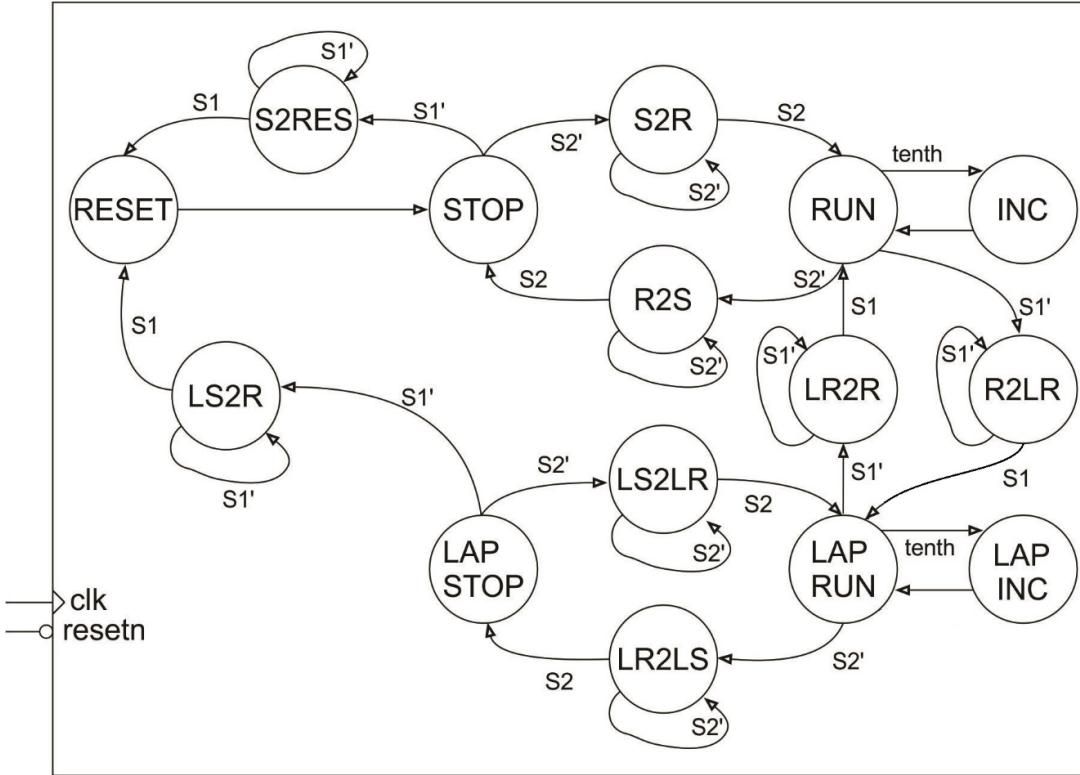
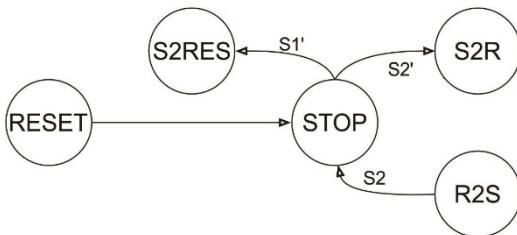
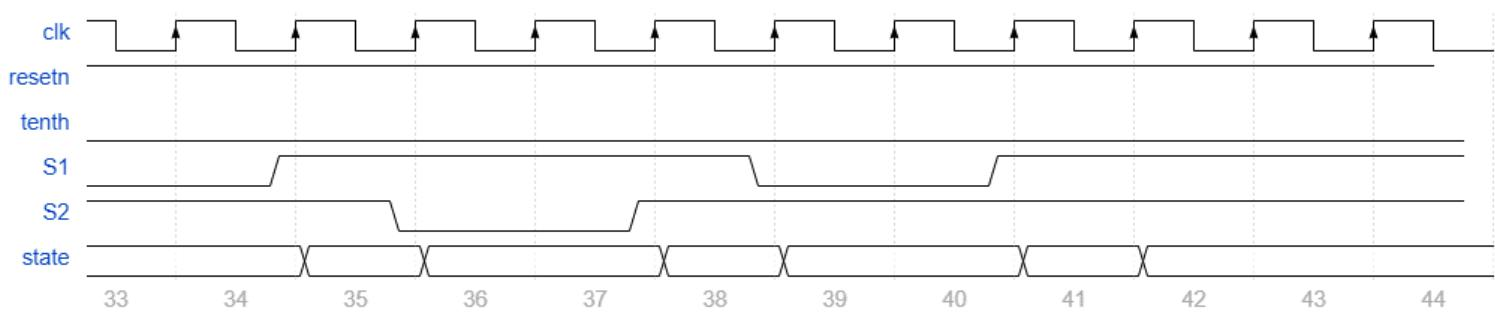

Figure 10.3: The control unit for the stopwatch needs to account for the time the user holds the button down.
Figure 10.5: All the states and with a transition arc connected to the STOP state.
Figure 10.6: Timing diagram for the testbench for the testbench simulation
The state diagram for the stopwatch is shown in Figure 10.3. The arcs between states are labeled with a Boolean condition, which when true, causes the FSM to make that transition. So for example, if the FSM is in the RUN state and the S2 button is pressed (buttons output 0 when pressed hence the arc labeled S2'), the FSM will transition to the R2S state (and stay there as long as the button is held down). When a number “2” appears in the middle of a state name, the number denotes the word “to” which is intended to mean moving from one state to
Table 10.1: Control word table for the stopwatch finite state machine shown in Figure 10.3.
- Next state logic – This is an always/case statement that has one case for each state. It embodies the logic in Figure 10.3 using if/then statements. Let's redraw Figure 10.3 by focusing on the states connected to the STOP state by transition arcs in Figure 10.5.
The next state logic for the STOP state embodies the 2 transition arcs leaving the STOP state in Figure 10.5. If the FSM is in the STOP state and the S1 input equals 1 then the FSM should go to the S2RES state. This logic and the transition to the state S2R is provided in the following code snippet. You must specify every possible next state, even when the next state does not change. Thus, I prefer to use a case statement and leave the default case to be when the next state is equal to the current state.
This lab will terminate with an extensive simulation of the stopwatch to uncover as many bugs as possible. Errors are much, much easier to find in a simulation. The goal of this simulation is to cover every transition arc in Figure 10.3 so that you can be sure your code is working correct.
The timing diagrams shown in Figure 10.6 show the tenths, S1 and S2 signals as they are manipulated by the testbench. These signals will affect the state of the control unit according to Figure 10.3. Your task is to use these signals to determine what the state the control unit is in.
The goal of the testbench was to cover every transition arc in Figure 10.3. This goal was not achieved; one transition arc was not taken in the testbench, which one was it?
Run the entire simulation and compare the simulation output to Figure 10.6. Use the results of the simulation to either correct Figure 10.6 or to correct your controlUnit.v code.
- Completed Figure 10.6.